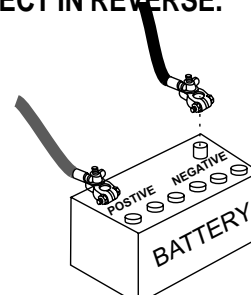

Figure 18. Battery connection
5. Connect the battery cables to the battery with red terminal to positive and black to negative (Figure 18). **DO NOT CONNECT IN REVERSE.**